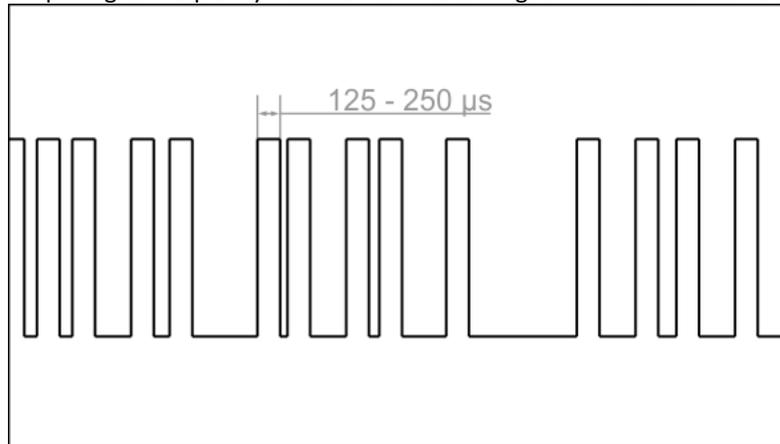

FIGURE 6: ONESHOT 125
Figure 6 shows a OneShot125 signal. OneShot125 is a modification of OneShot designed to improve system stability and responsiveness by reducing the delay between the flight controller and the ESC. OneShot125 scales down the OneShot signal by a factor of eight (8), reducing the endpoints to 125 μs (0% throttle) and 250 μs (100% throttle). Like OneShot, the signal low-time and